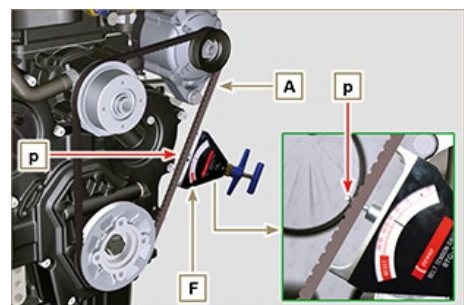

Fig 5.10
5. Check by the appropriate tool that at point **p** the tension value is between **70 and 75 Hz** for V-belt of **9 mm** and **80 and 85 Hz** for V-belt of 17 mm (**Fig. 5.10**) (**H**).